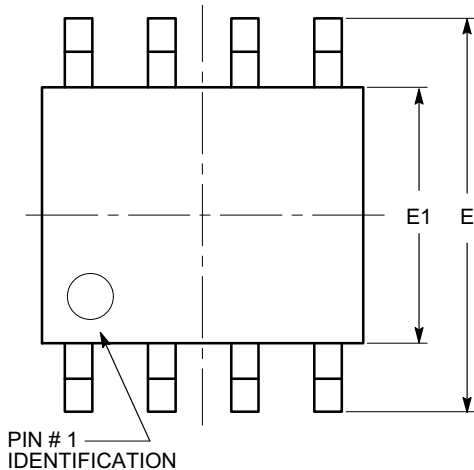

**Figure 14. Threshold vs. Temperature**
**Thresholds vs. Temperature.** Figure 14 shows the regulator select/deselect threshold variation up to the maximum rated junction temperature. The overall 100°C change in junction temperature causes a 30 mV variation in the select threshold voltage (regulator enable). The deselect threshold level varies about 50 mV over the 100°C change in junction temperature. This results in the built-in hysteresis having minimal variation over the entire operating junction temperature range.